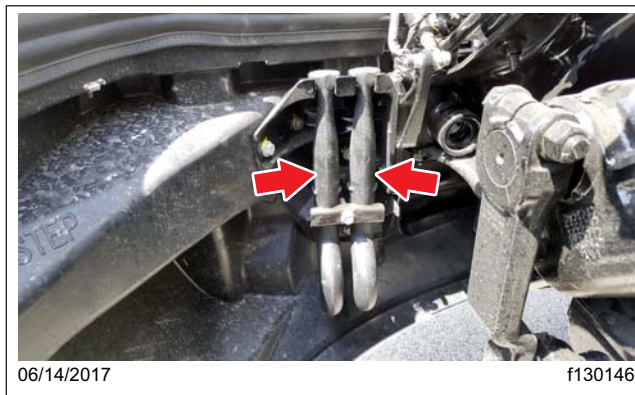

Fig. 24.3, Removable Front Tow Hooks
3. If the vehicle is equipped with removable tow hooks, open the hood and remove the tow hooks. See Fig. 24.3.